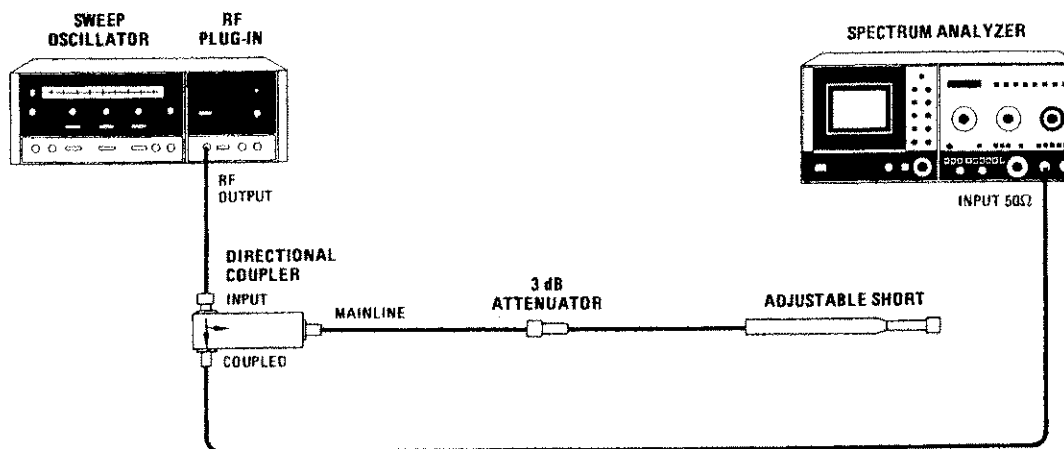

Figure 4-4. 3:1 Load SWR Test Setup
- i. Connect equipment as shown in Figure 4-4. Allow 30 minutes warmup time.